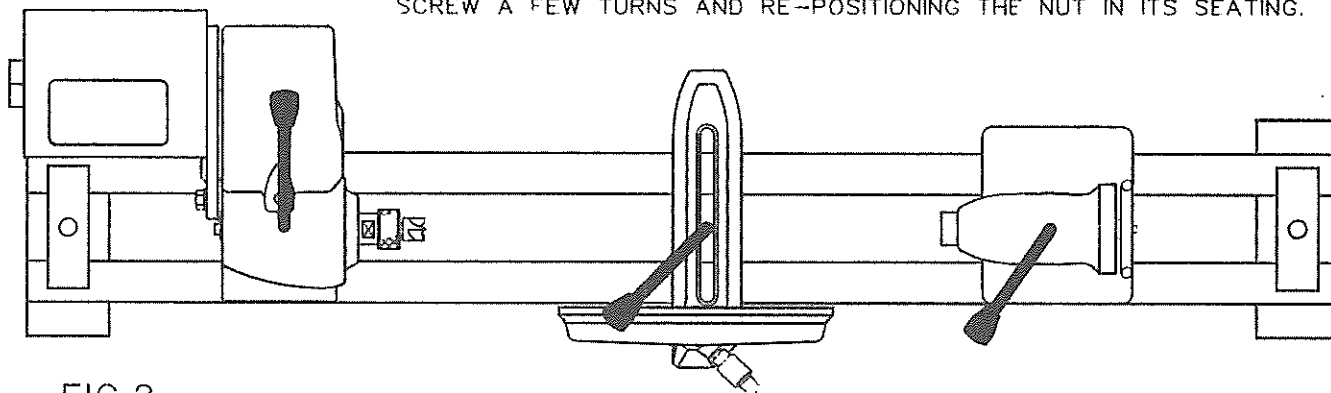

FIG.2
10. PUSH HEADSTOCK SECURING SCREW UPWARDS THROUGH HEADSTOCK AND ASSEMBLE THE NUT, WHICH SHOULD BE POSITIONED IN THE CAST RECESS SO THAT CLAMPING HANDLE WHEN TIGHT IS IN THE OPTIMUM POSITION. (SEE FIG.2)
14. THREAD WASHER ONTO BANJO CLAMPING SCREW THEN PLACE INTO A SQUARE STRAP, POSITION BOLT RETAINER OVER BOLT LOCATING LUGS ON RETAINER INTO SQUARE STRAP. THE CLAMPING SCREW THEN LEADS UP THROUGH BED BARS AND SLOT IN BANJO AND SCREWED INTO M12 NUT. ENSURE THAT SINGLE PAD ON SQUARE STRAP CONTACTS FRONT BED BAR. POSITION OF NUT IN ITS SLOT SHOULD BE ROTATED IF NECESSARY TO GIVE OPTIMUM CLAMPING HANDLE POSITION (SEE FIG.2).